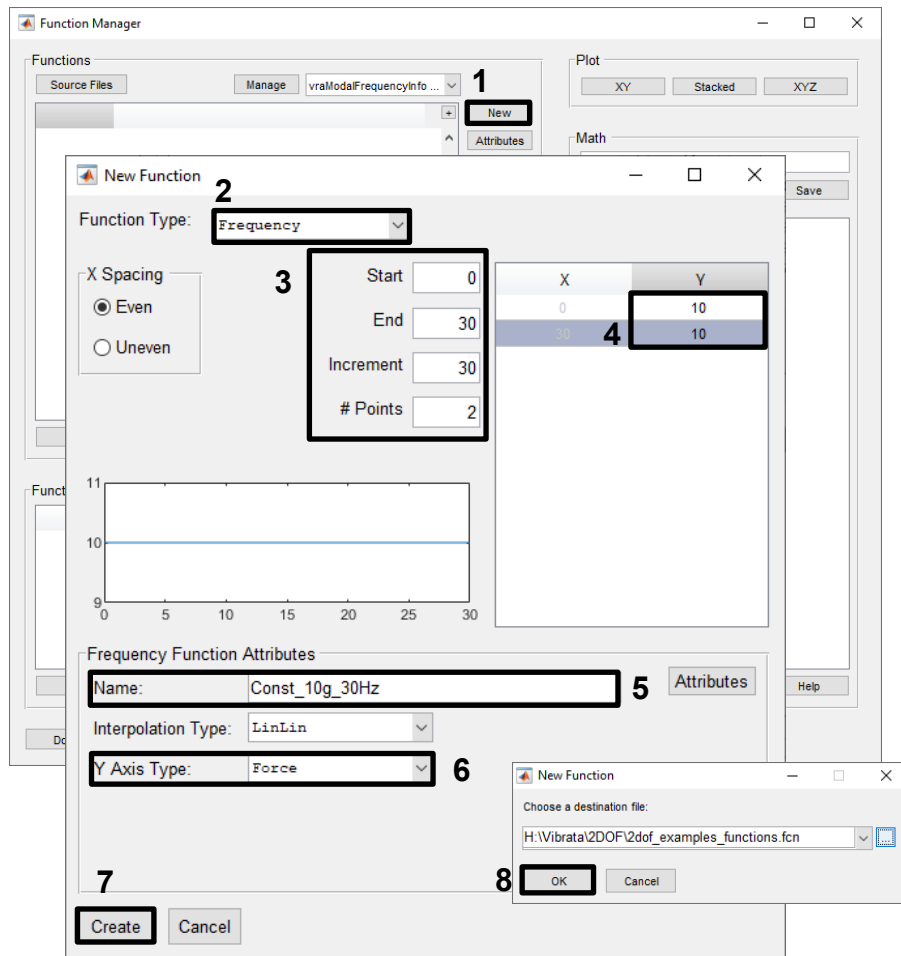

Figure 4-21. Create a new function with a constant 10 lbf amplitude from 0 to 30 Hz.
- c. Create a new frequency function from 0 to 30 Hz with an amplitude of 10. Make sure the *Y Axis Type* is *Force*, and give the function a name that you will be able to recognize later (Figure 4-21).